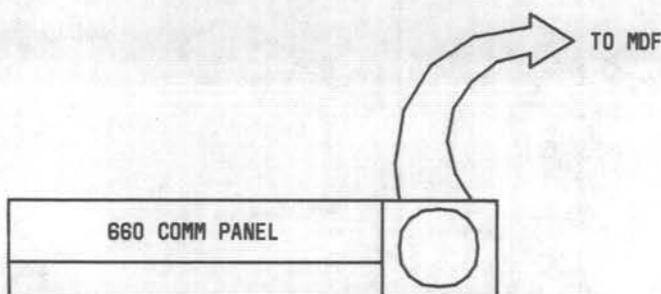
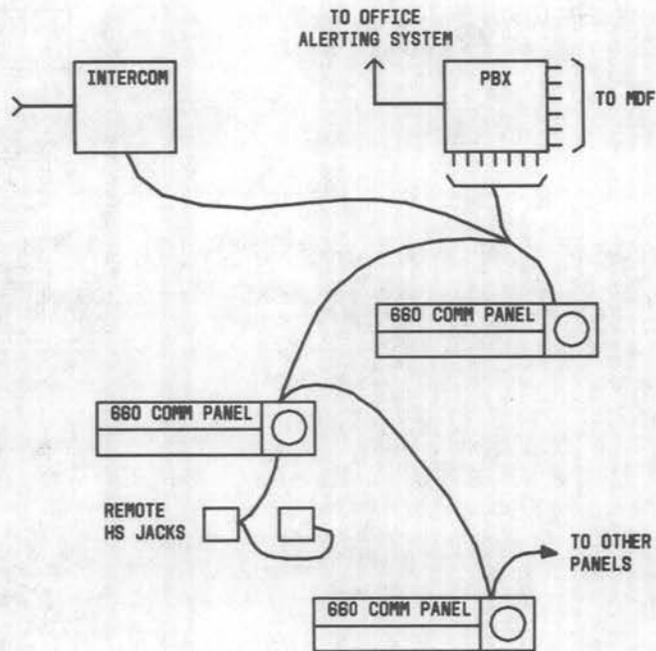

Fig. 4—660 Communication Panel With Ringer as a Single Telephone Station
Fig. 5—Example of 660 Communication Panels Interconnected in a Larger Installation
**2.08 Local Ringer:** A ringer is available as an option. The ringer is normally not supplied when the lines are connected through other equipment to the office alarm system for alerting purposes. This option will be useful when there are only a small number of communication panels in an office or when it is desired that a call on a certain line should direct the craft to the location of a certain panel. (See Fig. 4.) In other installations the panels will be connected as shown in Fig. 5 where a PBX activates the alerting system.